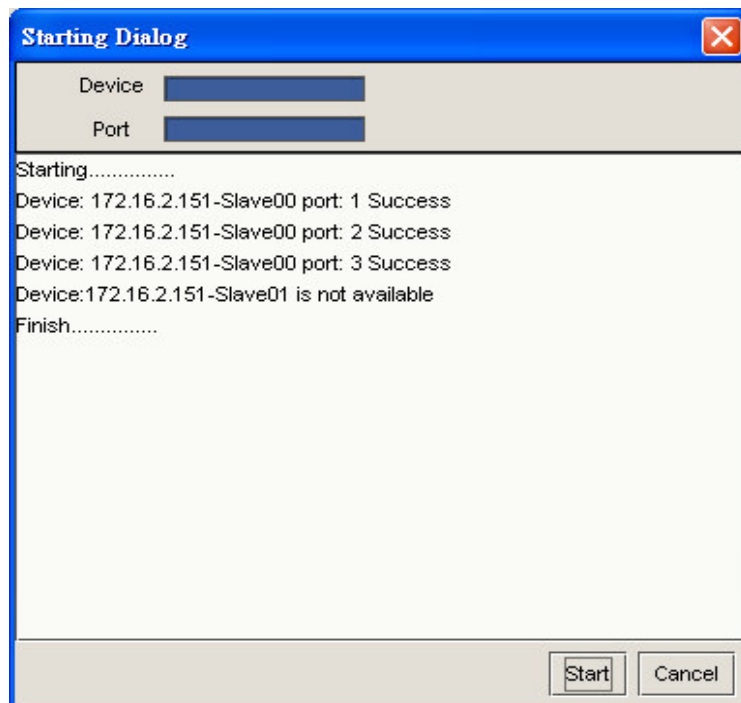

Figure 9-4. Deploy progress dialog
Step3: Push the start button to start the deploy the line profile, the result will display on the center of the dialog as below Figure 9-4: